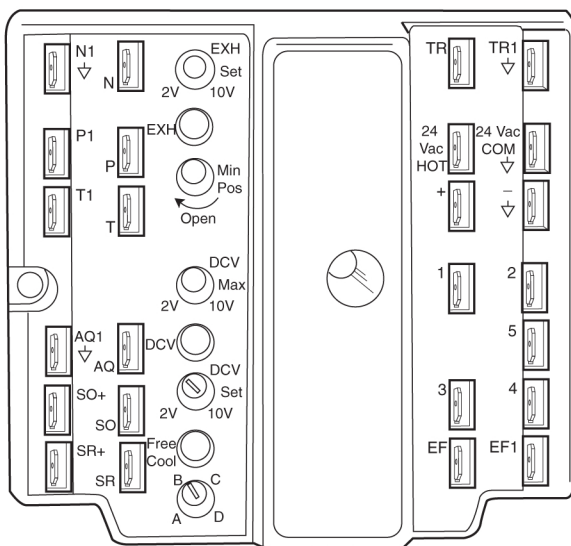

Fig. 18 - EconoMi\$er IV Controller
2. Disconnect the supply air sensor from terminals T and T1 (See Fig. 18) and jumper them together. This fools the controller into believing the mixed air temperature is 55 °F so it does not modulate the damper.